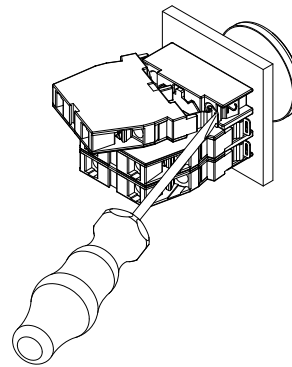

Fig. 6
1. Removal of the EF contact elements is carried out with the aid of a size 2 slot screwdriver (see fig. 6).